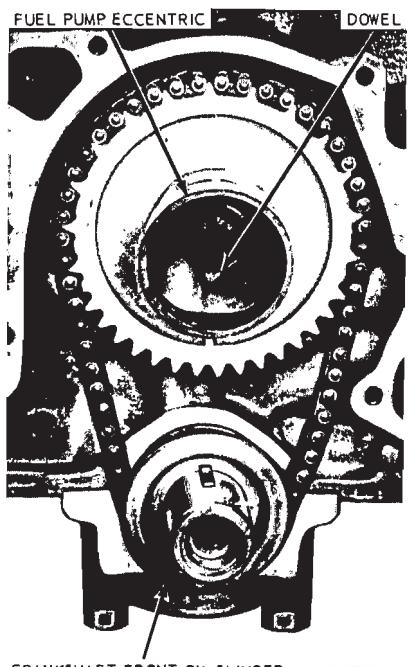

FIG. 36—Fuel Pump Eccentric and Front Oil Slinger Installed
2. Install the fuel pump eccentric, washers and camshaft sprocket cap screw. Torque the sprocket cap screw to specifications. Install the crankshaft front oil slinger (Fig. 36).